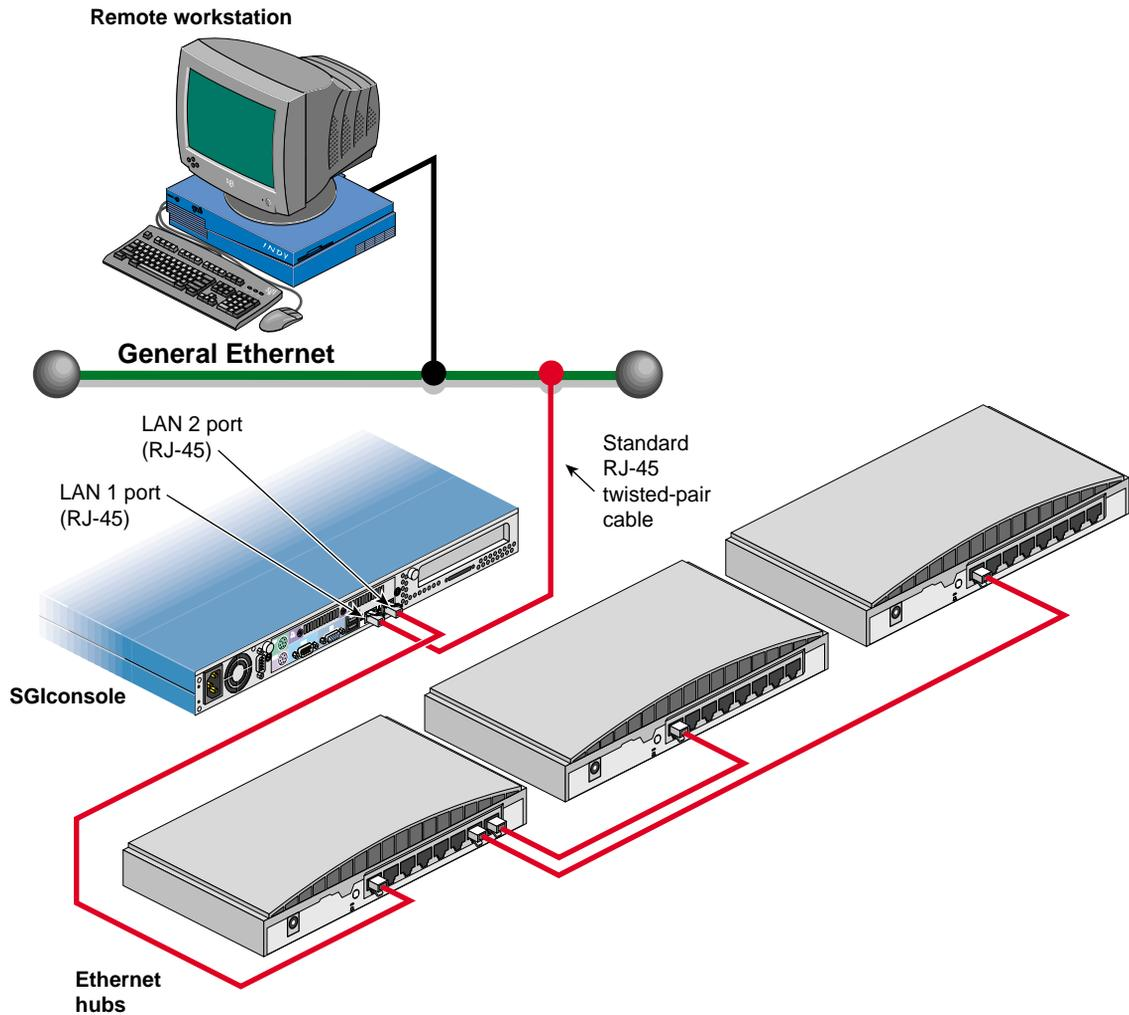
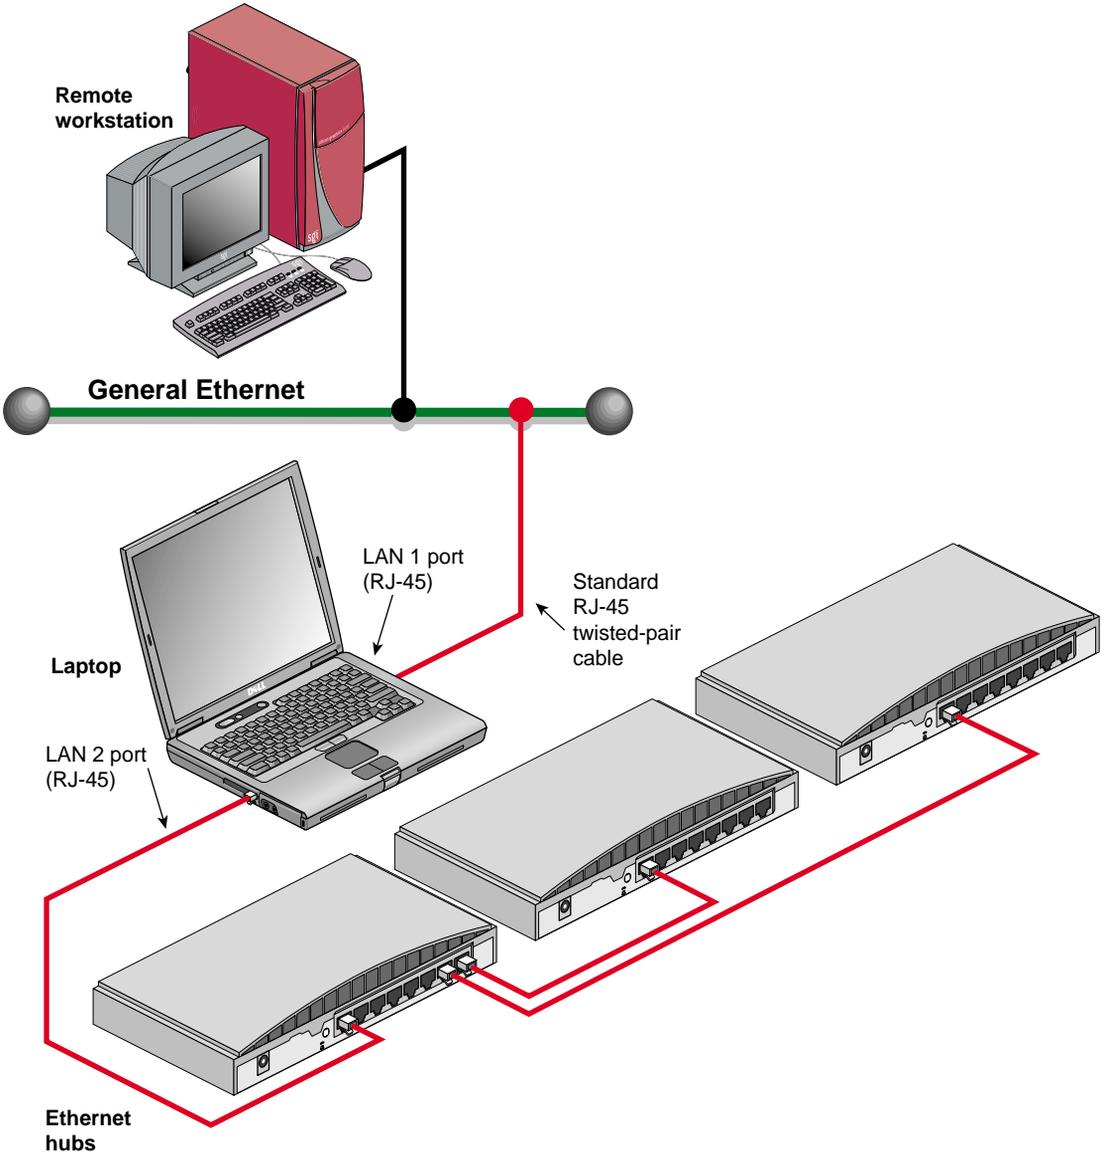

Figure 3-4 Example Connection of SGIconsole to Multiple Ethernet Hubs (SGI 1100 Shown)
Figure 3-5 Example Connection of SGIconsole to Multiple Ethernet Hubs (Laptop Shown)
3. Connect one end of one of the standard RJ-45 Ethernet cables to the **LAN 2** port RJ-45 jack (the rightmost RJ-45 jack) on your SGIconsole host system. Connect the other end of the RJ-45 cable to an RJ-45 jack on the Ethernet hub. Figure 3-4 and Figure 3-5 show the SGIconsole connected to the leftmost jack of the Ethernet hub. If you are going to use the leftmost Ethernet hub jack to connect to the SGIconsole, make sure that the Uplink button (next to the leftmost jack) is set to **Normal** (not pushed in).
1. Connect one end of a standard RJ-45 cable to one of the remaining RJ-45 jacks on the first Ethernet hub. Connect the other end of the RJ-45 cable to an RJ-45 jack on the additional Ethernet hub. Figure 3-4 shows the additional Ethernet hubs connected via their leftmost jacks.